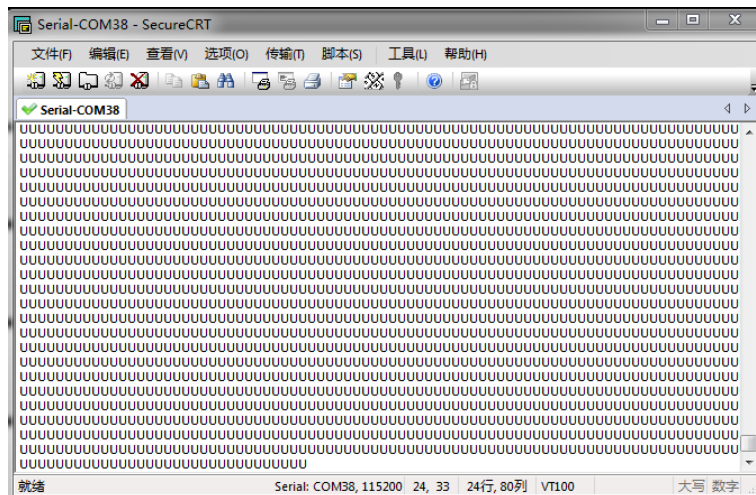

Figure 6 Serial send test
- (2) Push button “Send 01010101”, you will see something in PC like Figure 6.